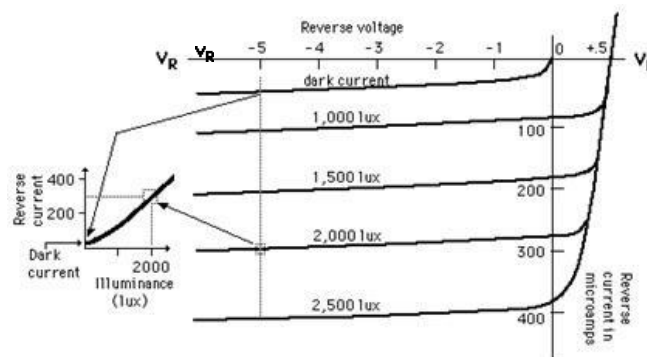

Figure 3: Plot of Reverse bias VI characteristics of Photo diode
8. Connect the circuit as shown in figure 3.